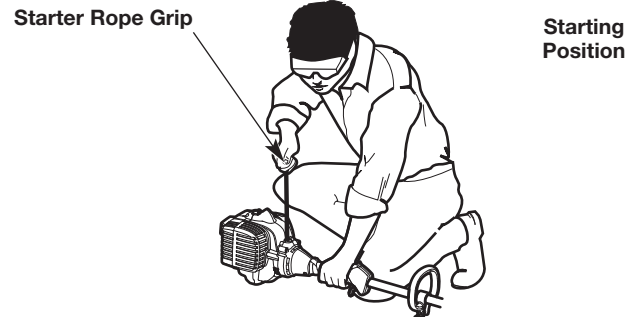

Fig. 7
WARNING: Avoid accidentally starting the unit. To avoid serious injury, the operator and the unit must be in a stable position when pulling the starter rope (Fig. 7).
3. Crouch in the starting position (Fig. 7).
4. Pull the starter rope with a controlled and steady motion until the unit starts (Fig. 7).